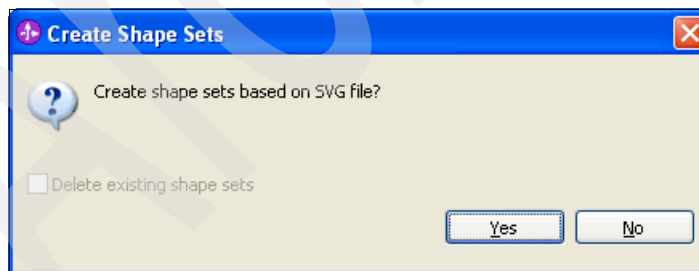

Figure 8-125 Create Shape Sets window
- c. In the Create Shape Sets window (Figure 8-125), click **Yes**.